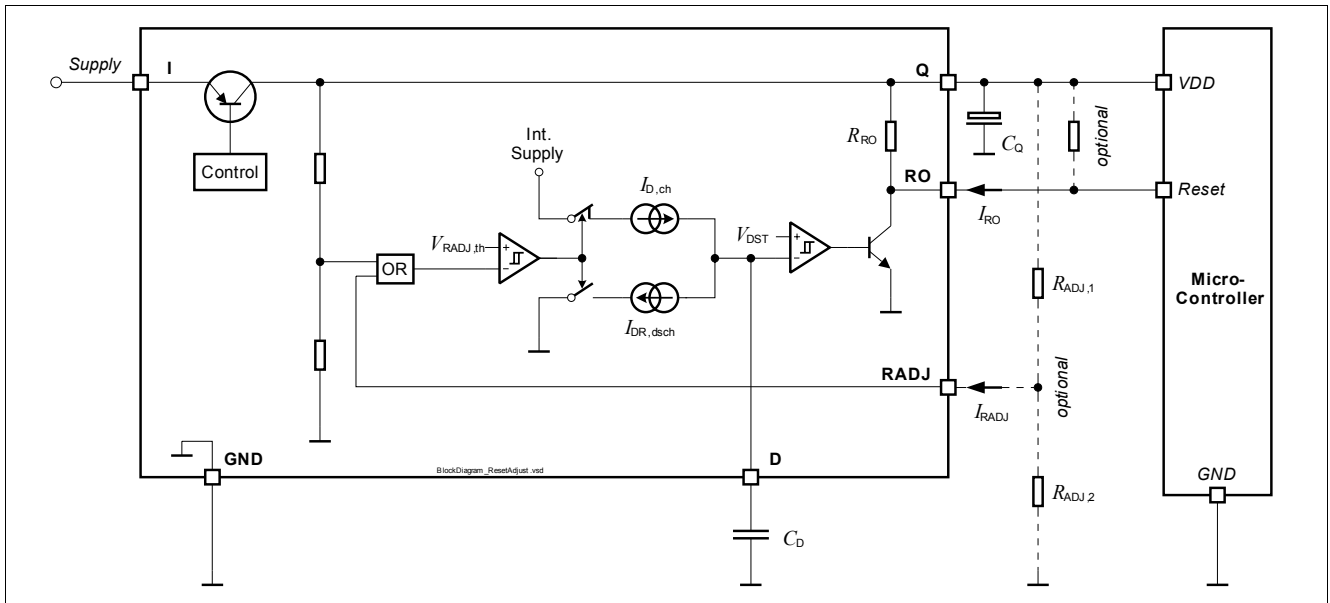

Figure 7 Block Diagram Reset Circuit
- $R_{ADJ,1}$, $R_{ADJ,2}$: Resistors of the external voltage divider, see Figure 7.
all voltages with respect to ground, direction of currents as shown in Figure 7 (unless otherwise specified).
all voltages with respect to ground, direction of currents as shown in **Figure 7** (unless otherwise specified).